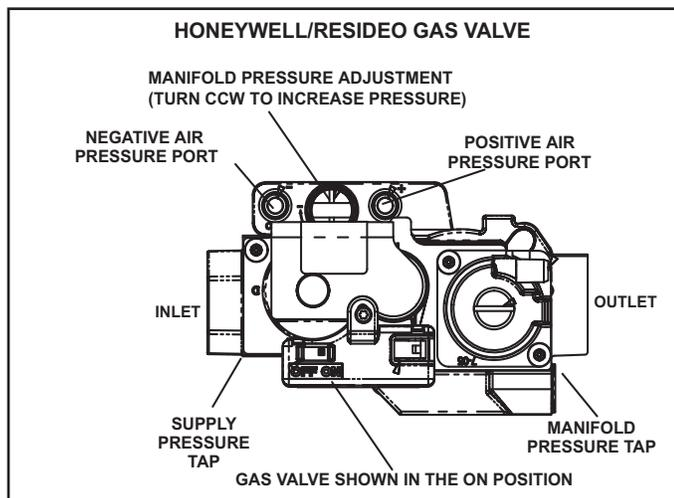

FIGURE 17
The valve (FIGURE 17) is internally redundant to assure safety shut-off. If the gas valve must be replaced, the same type valve must be used.
- 6 - Turn switch on gas valve to OFF. Do not force. See FIGURE 17.
- 8 - Move switch on gas valve to ON. Do not force. See FIGURE 17.
A port on the inlet side of the gas valve provides access to the supply pressure tap. See FIGURE 17. Loosen the screw and connect a manometer to measure supply pressure.
- 2 - Remove the threaded plug from the outlet side of the gas valve and install a field-provided barbed fitting. Connect measuring device positive "+" to barbed fitting to measure manifold pressure. See FIGURE 17 for manifold location.